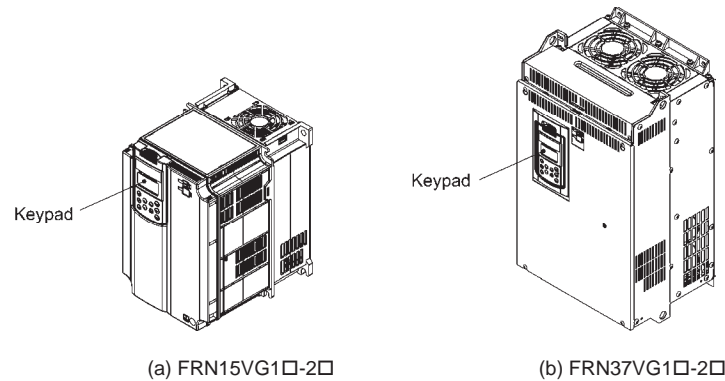

Figure 2.3-1 Mounting the Keypad Directly on the Inverter
- Mounting it directly on the inverter (see Figure 2.3-1 (a), (b))